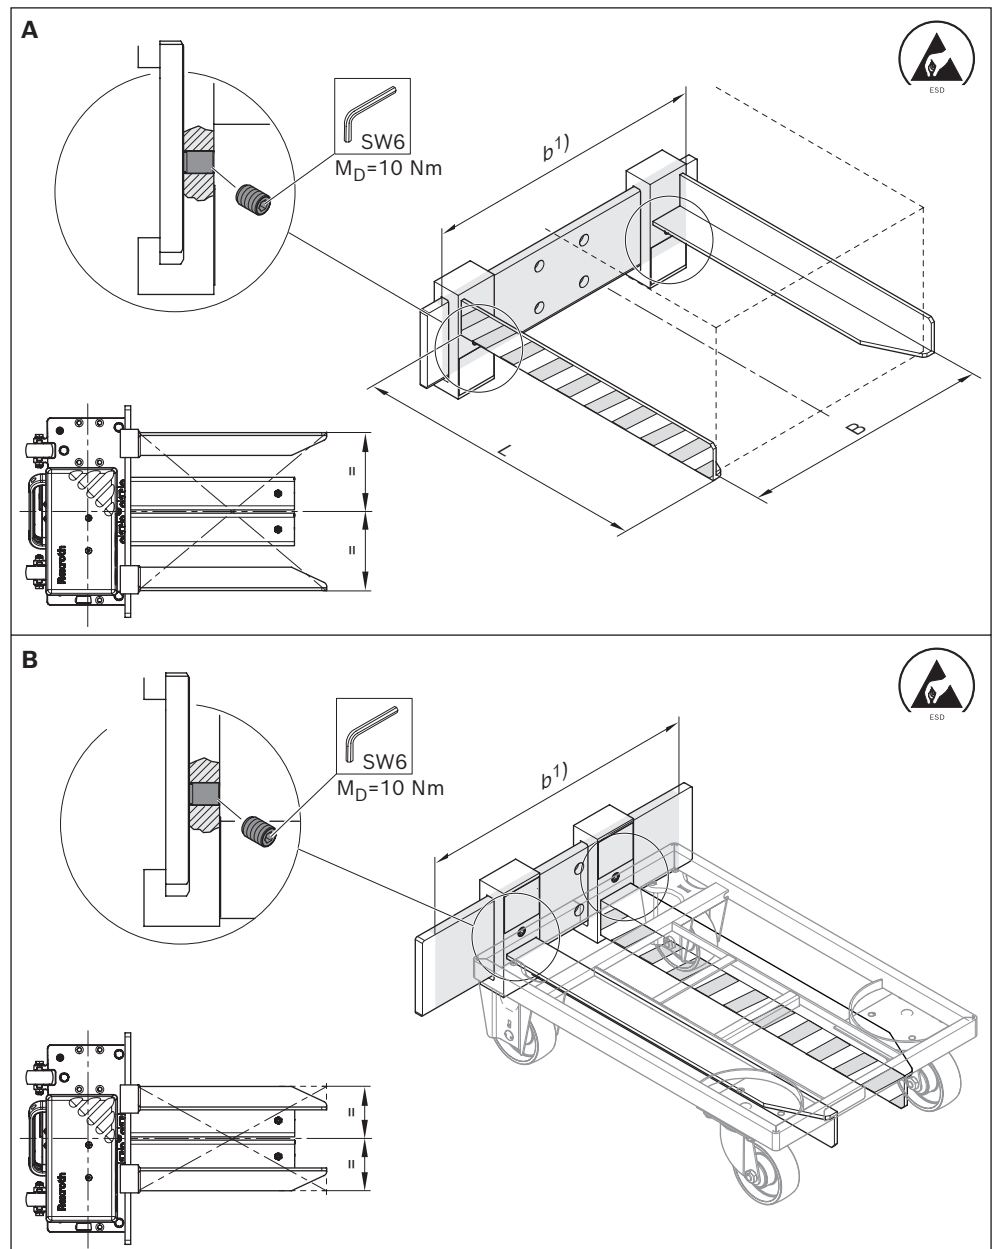

Fig. 26: Adjusting the forks
2. Adjust the installed forks to the width of either the case or the dolly (see Fig. 26).
- ▶ Prior to each commissioning, check the installed lifting accessory for secure seating and proper position (see Fig. 26).